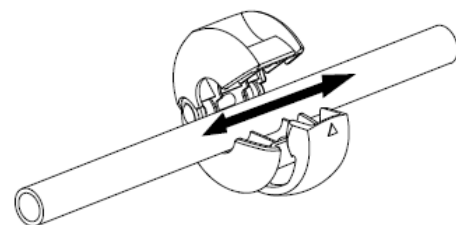

Fig. 5b
- Freely adjust the location of the stop ball along the hose. (see Fig. 5b)